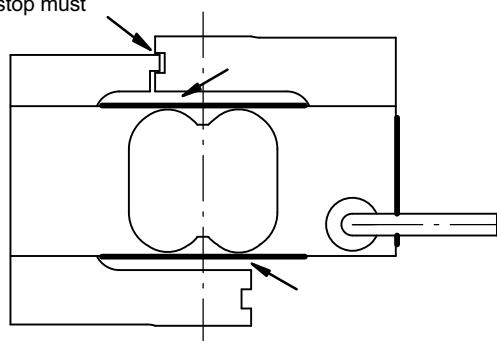

Fig. 5.1 Deposits at the marked areas must be avoided
*Measurement errors may be the result if dust or dirt is deposited inside the load cells. The relevant areas are marked by arrows in Fig. 5.1.*